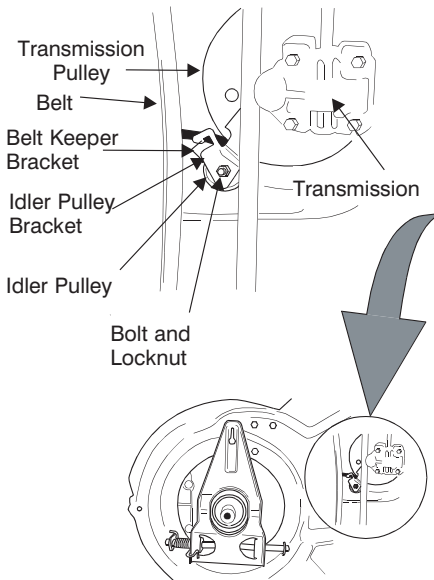

Figure 22
11. Slide the belt out from between the belt keeper bracket and the idler pulley. See Figure 22.
18. Tighten the idler pulley bolt and locknut $\frac{1}{2}$ turn using two $\frac{7}{16}$ " wrenches. See Figure 22.